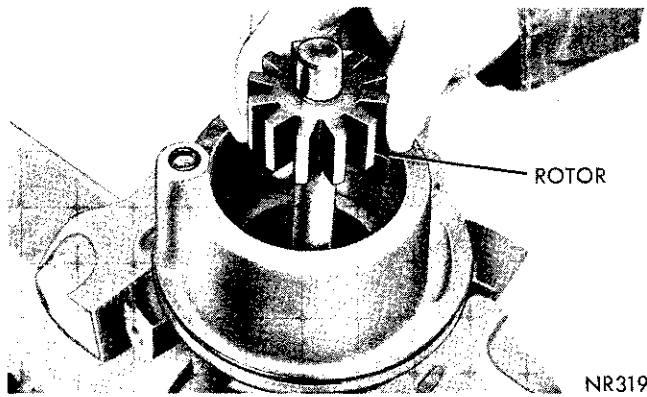

Fig. 27—Installing Rotor
(8) Install rotor and shaft in cam ring and carefully place 12 rollers in cavities of rotor (Figs. 27 and 28). Lubricate rotor, rollers, and cam I.D. with power steering fluid.
(9) Before installing pressure plate, rotate shaft by hand to make sure rollers are all seated parallel with pump shaft.